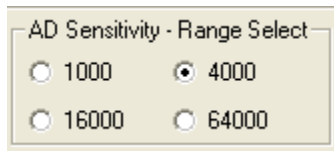

FIGURE 18.
- **Sensitivity-Range Select** in Figure 18 allows us to choose the sensitivity of the sensor based on external conditions/object detection. For example, a really bright object would require a higher range (i.e., 64000), versus a dark object, which would require a low range (i.e., 1000). Higher range reduces photo detector sensitivity.